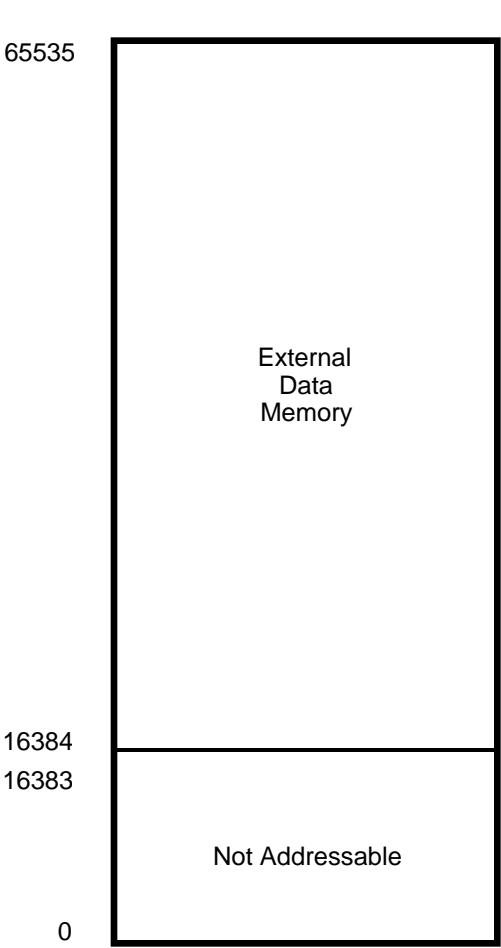

Figure 20. Data Memory Configuration
**Data Memory (/DM).** The ROM version can address up to 48 KB of external data memory space beginning at location 16384. The ROMless version can address up to 64 KB of external data memory. External data memory may be included with, or separated from, the external program memory space. /DM, an optional I/O function that can be programmed to appear on pin P34, is used to distinguish between data and program memory space (Figure 20). The state of the /DM signal is controlled by the type instruction being executed. An LDC opcode references PROGRAM (/DM inactive) memory, and an LDE instruction references DATA (/DM active Low) memory.
**Register File.** The Register File consists of four I/O port registers, 236 general-purpose registers and 16 control and status registers (Figure 18). There are eight further registers for I/O ports 4, 5 and 6 in the Expanded Register File (Bank F, R9-R2) (Figure 20).
The upper nibble of the register pointer (Figure 20) selects which group of 16 bytes in the register file, out of the full 236, will be accessed. The lower nibble selects the expanded register file bank and in the case of the Z86C61/62/96, only Bank F is implemented. A 0H in the lower nibble will allow the normal register file to be addressed, but any other value from 1H to FH will exchange the lower 16 registers in favor of an expanded register group of 16 registers.